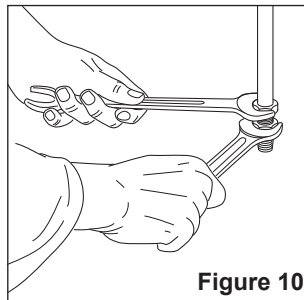

Figure 10
- **IMPORTANT:** Use two spanners to tighten or loosen the connecting pipe (fig. 10).